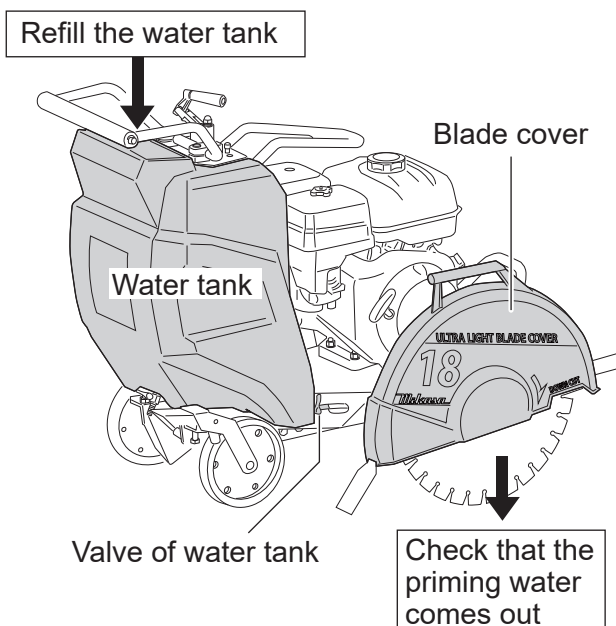

Fig. 3
- Refill the water tank with at least 50% over water. (Fig. 3)